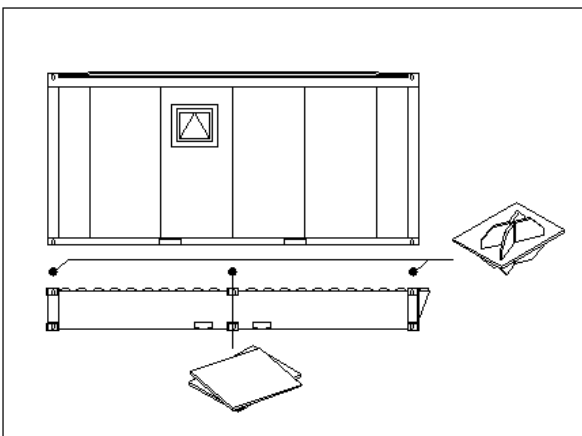

Figure 7: Stacking cones (for 10' and 20') and support shims (only for 20')
- The sanitary cabin must be secured against lateral displacement (slippage). Between the waste tank (10' and 20') and the sanitary cabin, stacking cones must be used on the outer container corners and support shims must be used in the middle between the roof and floor side rails, see Figure 7.